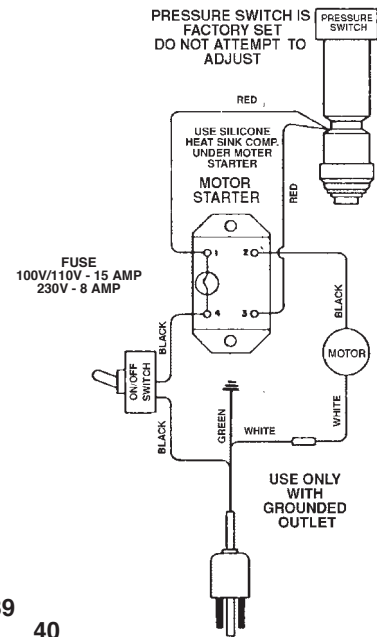

Figure 7
2. Disconnect the Power Supply Cord (#46) from; a) the On/Off Switch (#49), b) the white wire connected to the motor and, c) the green wire connected to the grounding screw (#42). Refer to the Electrical Schematic, Figure 7.
5. Reconnect wires according to Figure 7.